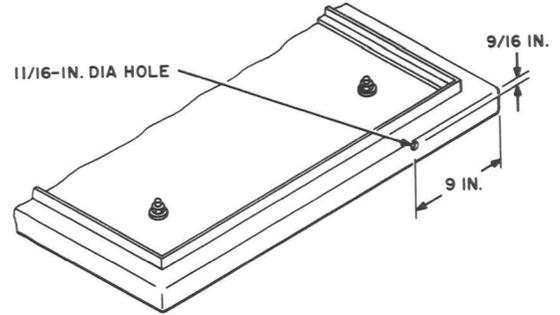

Fig. 4—Locating Hole in Roof of KS-14611 Booth for Light Cell
*does not exist, drill one 11/16-inch diameter hole in the roof as shown in Fig. 4 or 5. A Greenlee knockout punch should be used if available.*
- KS-16797 Universal booth (MD) equipped with B-185379 light fixture.
***shown in Fig. 4. A Greenlee knockout punch should be used if available.***